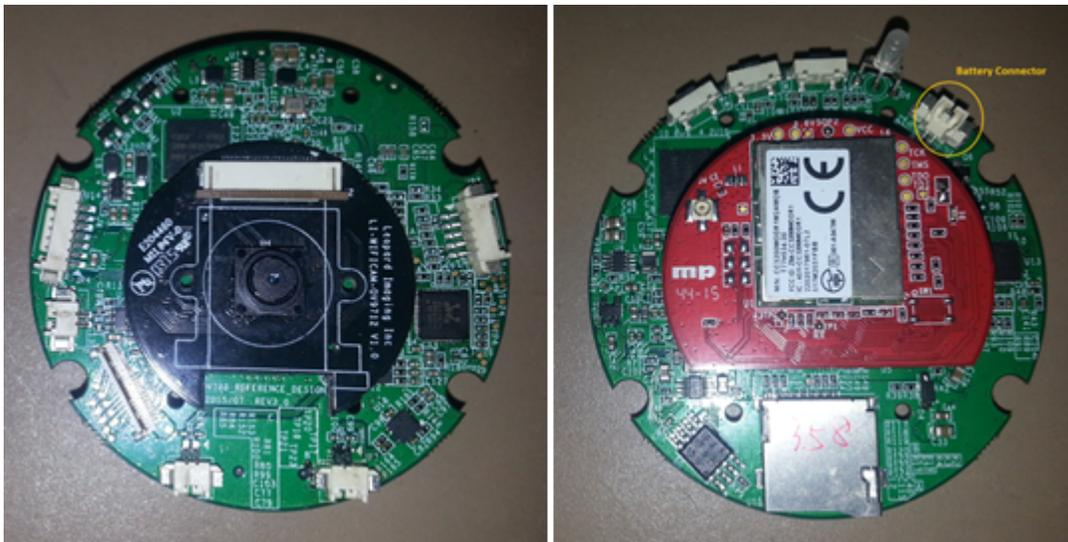

Figure 8. CC3200-MODULE Board Mounted on OV788 Subsystem
1. Mount the CC3200-MODULE board on OV788 board as shown in Figure 8. Ensure J1 of both boards are aligned with each other.
7. Power up the OV788/CC3200-MODULE setup using the battery connector, as shown in Figure 8.